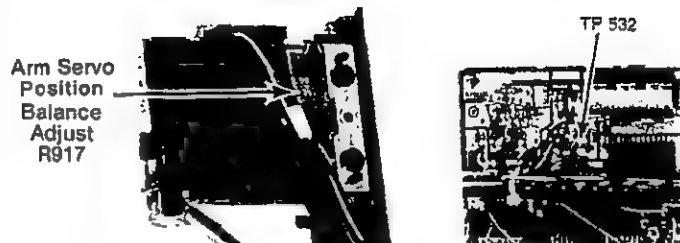

Fig. 4-3. — Servo Position Adjust
1. Connect oscilloscope, to TP 532 (scope set to .1mS/Div. 2V p-p) Fig. 4-3.